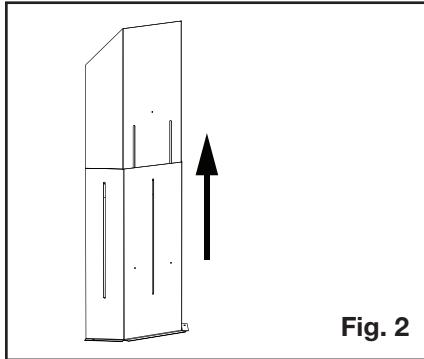

Fig. 2
2. Install one vent shield onto the standoff on one side of the firestop spacer (**Figure 2**).
2. Adjust the vent shield to its maximum vertical (**Figure 2**).